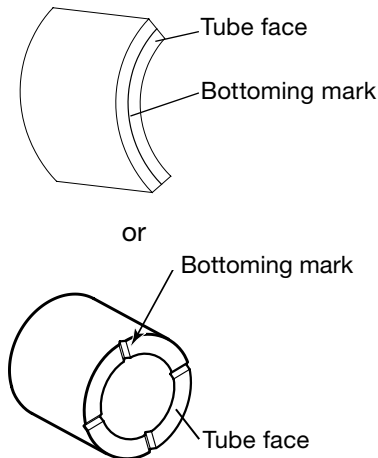

Fig. 5 Tube Bottoming Mark
11. Inspect the tube end for a radial indentation bottoming mark (see Fig. 5). This indentation indicates the tubing was properly bottomed in the MHSU. If there is not a visible indentation, the preswaged assembly should not be used.